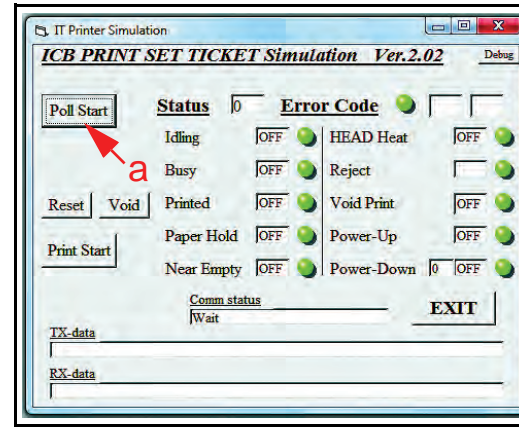
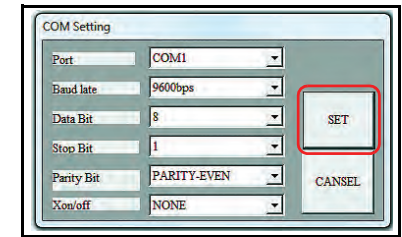

Figure 2 Print Set Ticket Main Menu Screen
Figure 3 COM Setting Screen
1. Open the “**ICB Print Ticket**” program (See Figure 2).
3. Initiate communication by clicking on the ‘Poll Start’ Screen Button (See Figure 2 a). The ‘COM Setting’ Screen displayed in Figure 3 will appear. The Baud Rate, Data Bit, Stop Bit, Parity Bit and Xon/off values are preset to the proper settings.
4. Select the necessary Comm Port and click ‘SET’ to initiate communications (See Red circled Screen Button in Figure 3).
Once information is entered, click on the **“Print Start”** Button  located on the ICB Print Set Ticket *Simulation* Main Menu Screen shown previously in Figure 2 on Page 5.
Once information is entered, click on the “Print Start” Button **Print Start** located on the ICB Print Set Ticket *Simulation* Main Menu Screen shown previously in Figure 2 on Page 5.